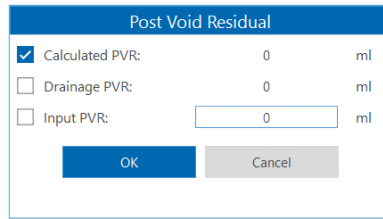

Figure 21: Post Voided Residual Window
- A Post Voided Residual** window (Figure 21) will pop-up. Select the preferred method of capturing Post Voided Residual (PVR), meaning the amount of fluid remaining in the bladder at the completion of the voiding phase. Use of the PVR functions is at the discretion of the overseeing physician.
3. **A Post Voided Residual** window (Figure 21) will pop-up. Select the preferred method of capturing Post Voided Residual (PVR), meaning the amount of fluid remaining in the bladder at the completion of the voiding phase. Click **OK** to move to the Report.